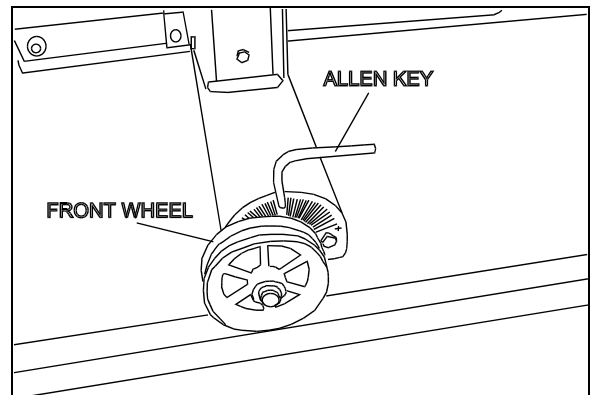

FIGURE 54: ADJUSTING HOOPY 100 LEVEL 06498
6. Using an Allen key on the front wheel, level Hoopy 100 aligner until spirit level bubble is centered (Fig. 54 and 55).